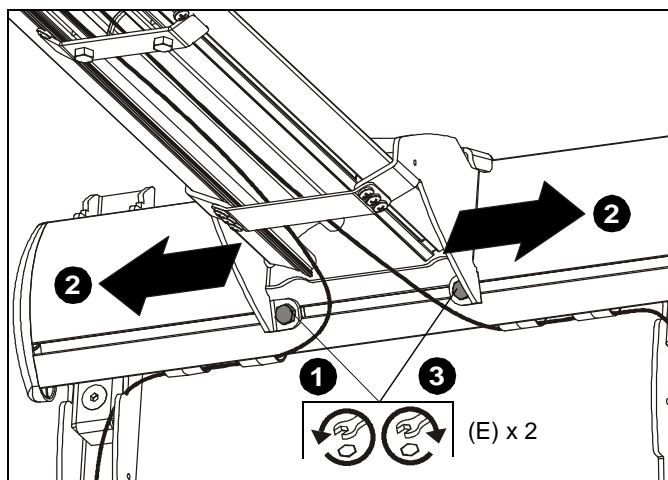

Figure 66
1. Loosen two 1/4-20 x 5/8" hex head cap screws (E) on underside of mounting bracket. (See Figure 66)
2. Adjust projector arm laterally to desired position. (See Figure 66)
3. Tighten two 1/4-20 x 5/8" hex head cap screws (E) loosened in Step 1. (See Figure 66)